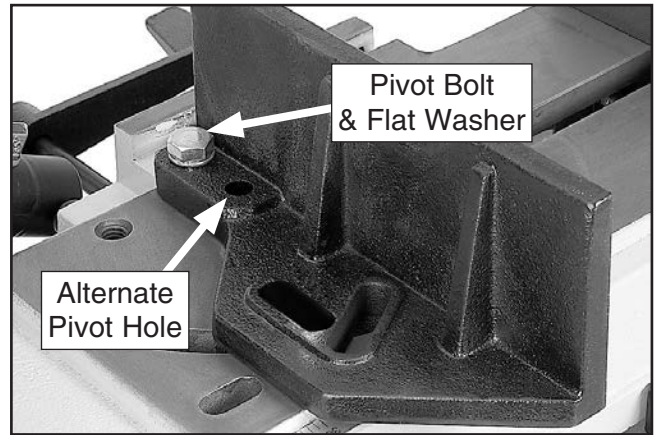

Figure 44. Location of pivot bolt and alternate pivot hole.
4. Remove pivot bolt and flat washer shown in **Figure 44**.
5. Move rear vise jaw so pivot bolt and flat washer can secure it through alternate pivot hole (see **Figure 44**).